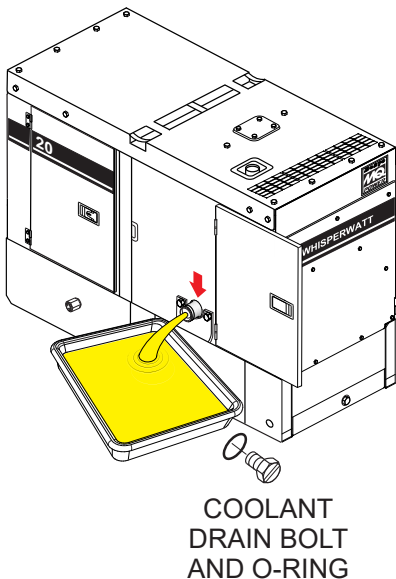

Figure 58. Draining Engine Coolant
2. Open the cabinet door and remove the **coolant drain bolt and O-ring** (Figure 58), then allow the coolant to drain into a suitable container.